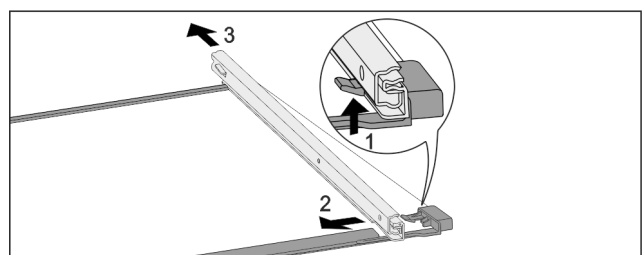

Fig. 167 Glass shelf with rails
- ▶ Push up front click-in hooks. *Fig. 167 (1)*
- ▶ Move the pull-out rails to the side *Fig. 167 (2)* and to the rear *Fig. 167 (3)*.